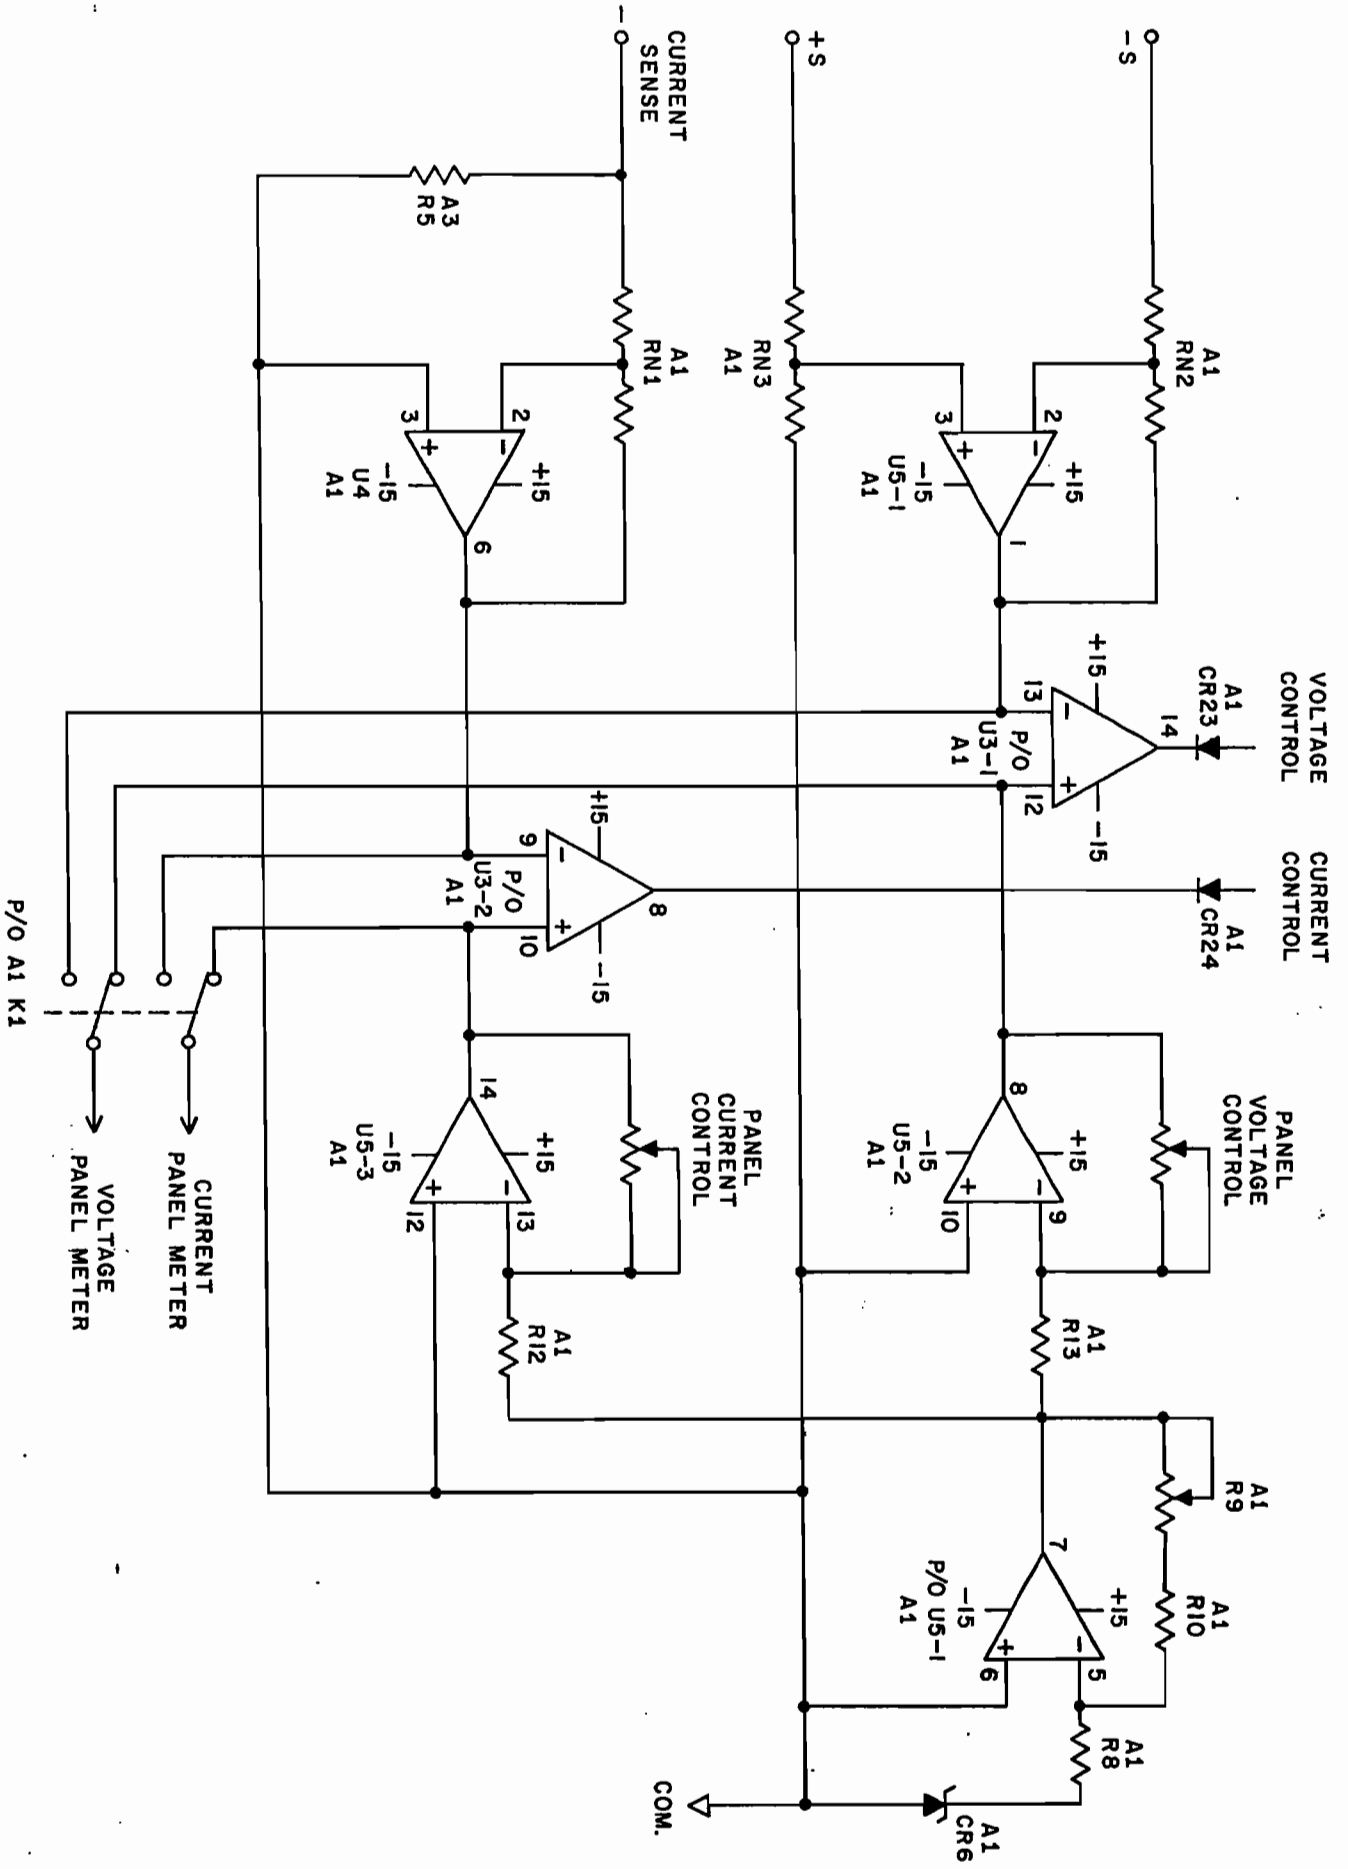

FIG. 3-1 SIMPLIFIED SCHEMATIC, VOLTAGE AND CURRENT CONTROL
- 3-2** The following paragraph basically describes circuit operation. Refer to the simplified schematic, Figure 3-1 and the main schematic, Figure 5-1.
- 3-8 REFERENCE VOLTAGE:** Refer to Figure 3-1. All models of the series use zener A1CR6 as the standard voltage reference. This voltage is the input to op-amp A1U5-1 as shown. Potentiometer A1R9 is a feedback resistance that is set at the factory to calibrate the reference voltage for an individual unit. The output of A1U5-1 is a stable -10 Volts that will be proportioned to values that are used for the individual models of the MSK Series which have different output characteristics.